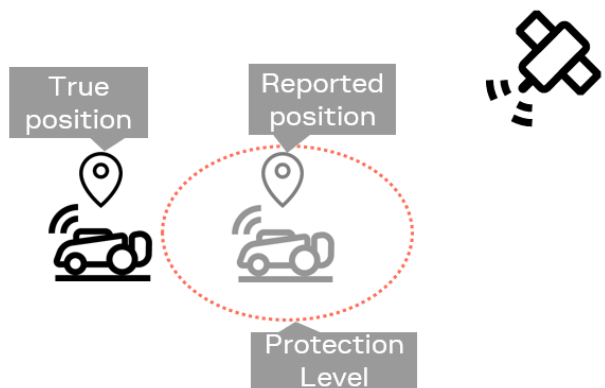

Figure 17: Misleading information
The protection level bounds the true position error with a target misleading information risk (TMIR), for example 5% [MI/epoch] (read: 5% probability of having an MI per epoch). The target misleading information risk describes the probability per epoch of having misleading information (MI), meaning that it is not possible to bound the true position error because it is larger than the protection level (see Figure 17).